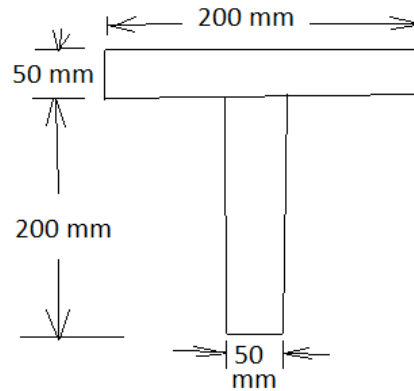

Fig. 2
- 6 a) What do you understand by the term 'point of inflection'? (2)
b) A simply supported beam of length 10 m carries a uniformly distributed load of 10 kN/m over a span length of 5 m from the left support. A point load of 15 kN and a moment of 10 kN-m are acting on the beam at a distance of 6.5 m and 8 m respectively from the left support. Draw the SF and BM diagrams. Find out the maximum bending moment and its location. (8)
- 7 Derive from fundamentals pure bending equation $\frac{M}{I} = \frac{f}{y} = \frac{E}{R}$. Also state the important assumptions. (10)
- 8 The T shaped cross section of a beam shown in Fig. 2 is subjected to vertical shear force of 100 kN. Calculate the shear stress at the neutral axis and at the junction of the web and the flange. Moment of inertia about the horizontal neutral axis is $1.134 \times 10^8 \text{ mm}^4$. (10)